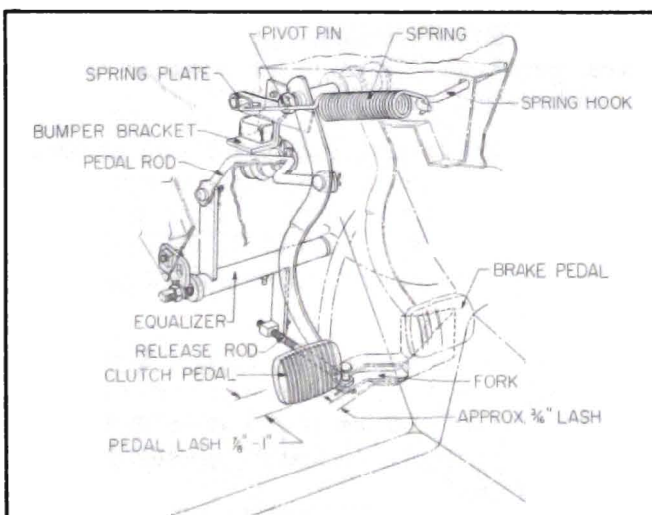

Figure 4-3—Clutch Linkage
The clutch pedal is of the suspended type and pivots on a shaft which extends through brackets bolted to the cowl. This shaft is also used to suspend the brake pedal. The clutch pedal returns against a non-adjustable pedal stop under the instrument panel. See Figure 4-3.
2. With car raised, pull outer end of clutch fork rearward until throw-out bearing contacts clutch release levers. Free movement at outer end of fork should be approximately 3/16". See Figure 4-3. This should give correct lash at pedal.